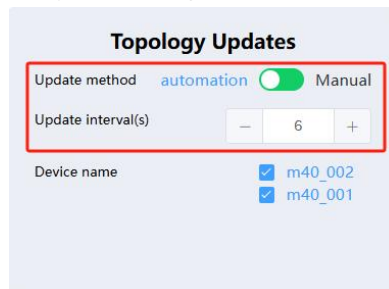

Figure 6.7.2 Automatic update of flutter diagrams
**Auto Update:** As in Figure 6.7.2 select Auto Update and the network topology map on the right will be updated automatically according to the update interval.